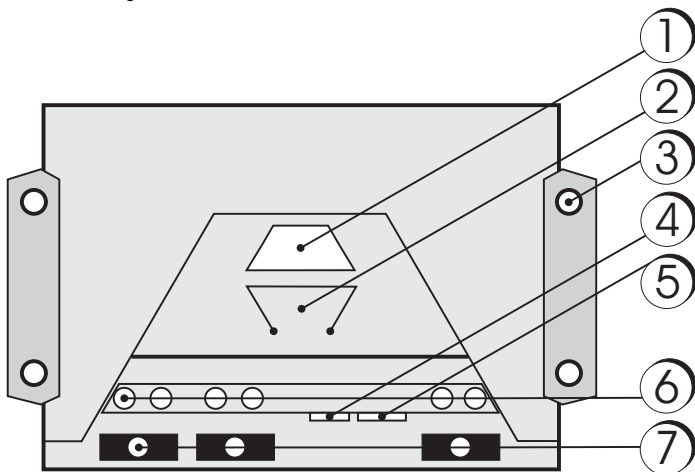
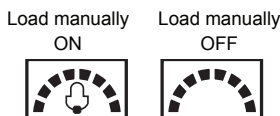

Figure 5 Overview Solar ChargeMaster
Figure 9: Load control
Figure 5 shows all serviceable parts of the Solar ChargeMaster.
A cross-head screw driver is all you need for the strain relieves, the screw terminals and the fastening screws for the housing. See also figure 5.
2. Remove the screws from the strain relief and take off the strain relief bridges. See figure 5 too.
3. Mount the controller to the wall. Use appropriate screws for the wall material. Use screws with 4 to 5 mm shaft and max. 10 mm head diameter, no counter sunk. See figure 5 for locating the mounting holes.
5. To avoid voltage at the load terminal, push the button (see figure 5) shortly to shut off the load output.
- During installation you switched off the load. Switching on is obtained manually with a short press of the button, see figure 9.
The button switch (number 1 on figure 5) has three push modes (see section 6.1):
In normal operation the loads can be switched on and off by pushing the button (figure 5). See figure 9 for the displays.